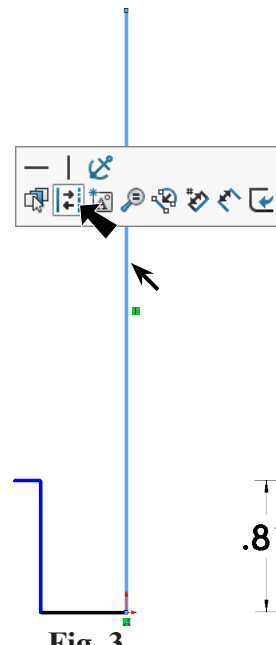

Fig. 3
Step 6. Click the **vertical line at Origin** and click **Construction Geometry**  on the context toolbar, **Fig. 3**.